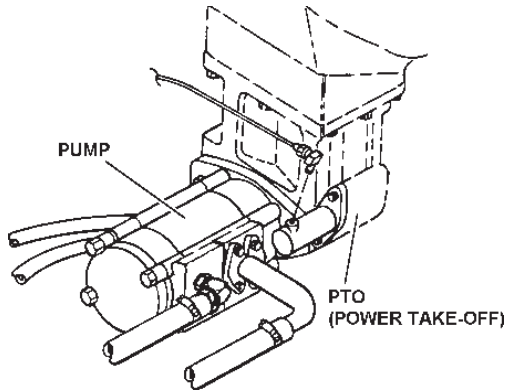

FIGURE 3.1
3.1 Your new wrecker is fully hydraulic. It receives its power by means of a Power Take-Off/Pump combination mounted to the truck transmission. Since the pump is attached to the PTO, no drive line or universal joints are required. See Figure 3.1.
3A.1 Your new wheel lift is totally hydraulic. It receives its power from the truck engine by means of a Power Take-Off/Pump combination attached to the vehicle transmission. Since the pump is attached directly to the PTO, no drive line or universal joints are required. Refer to Figure 3.1.